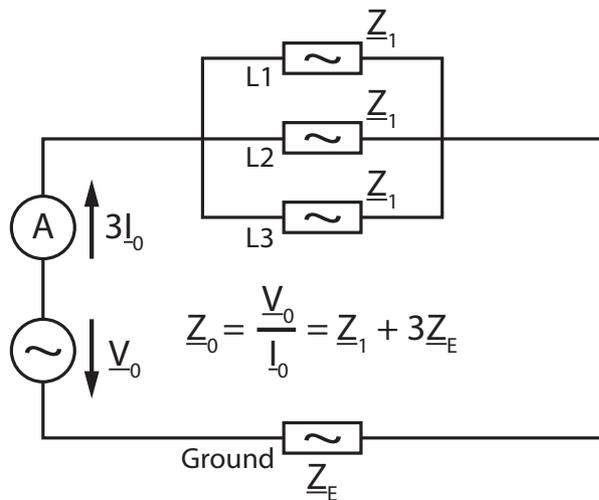

Figure 4-1: Zero-sequence impedance definition
- the complex ratio of the zero-sequence impedance and the positive-sequence impedance (see Figure 4-1: "Zero-sequence impedance definition" on page 32):